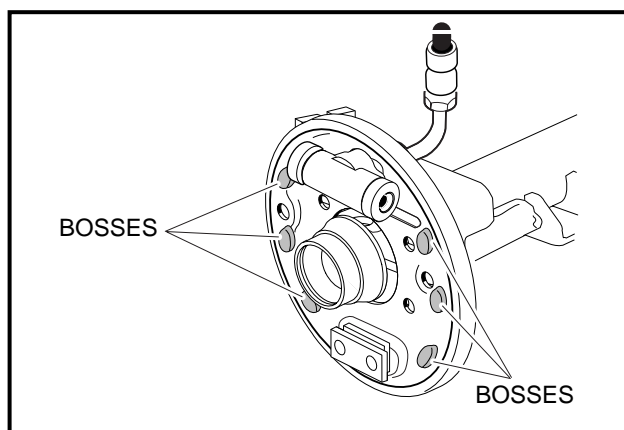

Figure 6-8 Lubricate Raised Bosses
7. Use a small brush to carefully apply a liberal amount of white lithium NLGI Number 2 grease (Dow Corning BR2-Plus or equivalent) on each of the six raised bosses on the brake cluster backing plate (**Figure 6-8, Page 6-11**). **See preceding WARNING.**